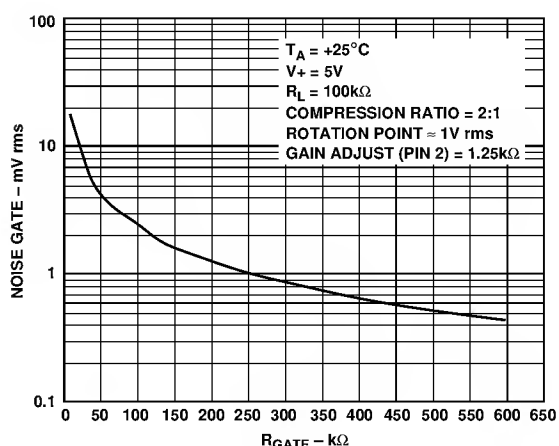
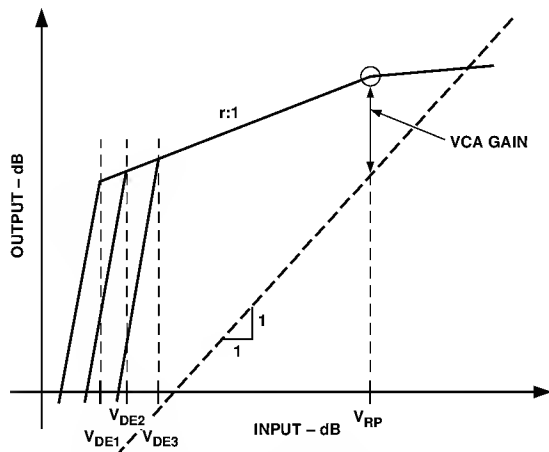

Figure 4. Noise Gate vs.  $R_{GATE}$  (Pin 9 to  $V_+$ )
Figure 20. Effect of Varying the Downward Expansion (Noise Gate) Threshold
**Downward Expansion Threshold.** The downward expansion, or noise gate, threshold is determined via a second reference voltage internal to the control circuitry. This second reference can be varied in the SSM 2166 using a resistor,  $R_{GATE}$ , connected between the positive supply and the NOISE GATE SET pin (Pin 9) of the SSM 2166. The effect of varying this threshold is shown in Figure 20. The downward expansion threshold may be set between 300  $\mu$ V rms and 20 mV rms by varying the resistance value between Pin 9 and the supply voltage. Like the ROTATION PT ADJUST, the downward expansion threshold is inversely proportional to the value of this resistance: setting this resistance to 1 M $\Omega$  sets the threshold at approximately 250  $\mu$ V rms, whereas a 10 k $\Omega$  resistance sets the threshold at approximately 20 mV rms. This relationship is illustrated in Figure 4. A potentiometer network is provided on the evaluation board for this adjustment. In general, the downward expansion threshold should be set at the lower extreme of the desired range of the input signals, so that signals below this level will be attenuated.